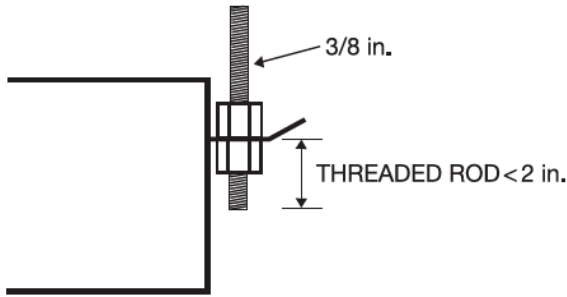

Fig. 7 — Threaded Rod
3. Secure the unit in position with locknuts and washers on both sides of the unit bracket. Ensure that the threaded rod does not protrude more than 2 in. below the mounting brackets as shown in Fig. 7.